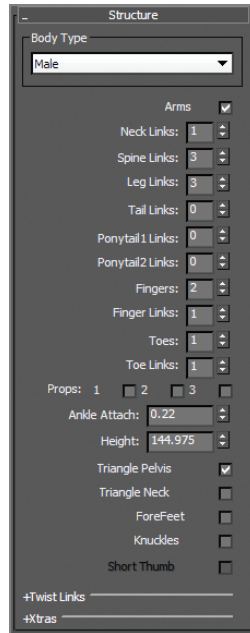

FIGURE 12.5
6. Then in the Structure rollout, change the parameters to match Figure 12.5. The number of spine links should be set to 3. Change the number of toes to 1 and toe links to 1. Because the soldier is wearing boots, a single, wide toe will suffice. Change the number of fingers to 2 because with mittens you only need one finger and a thumb.